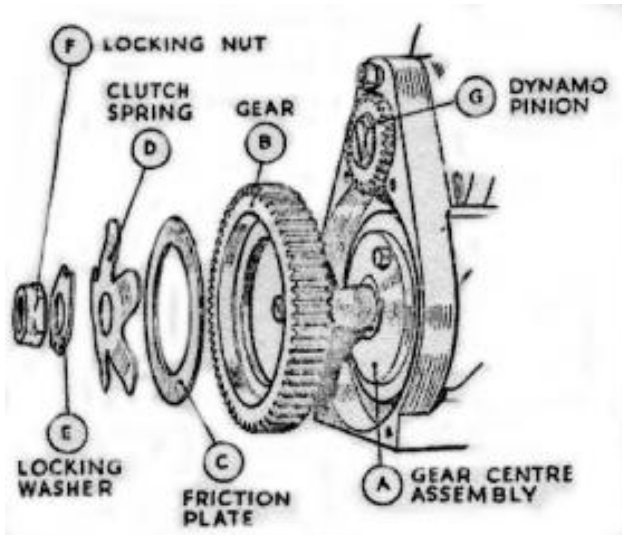
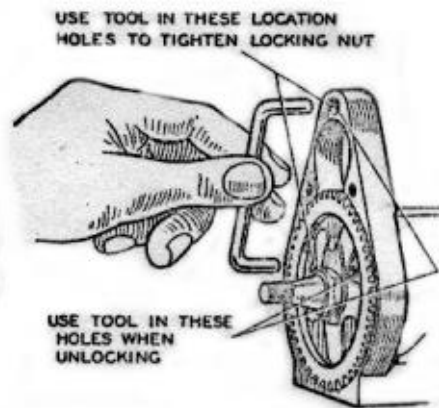
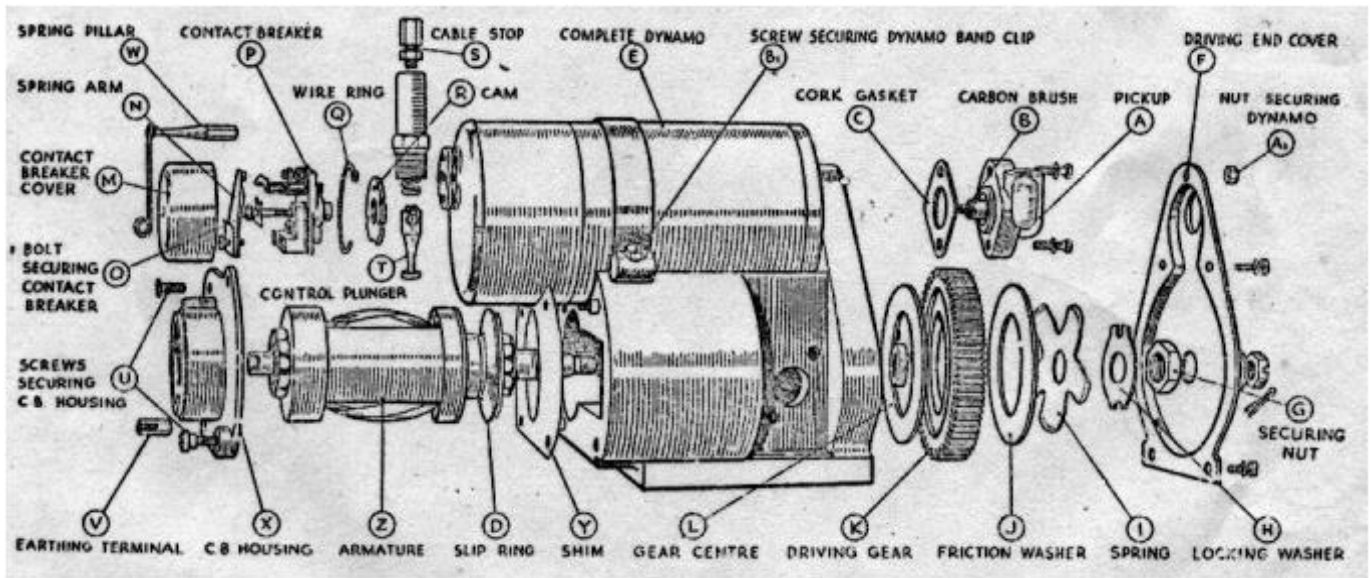

Fig. 49. Exploded view of components of the Slipping clutch.
Fig. 50. Slipping clutch showing the jig to lock the large gear.
Fig. 51. Exploded view of magneto portion of dynamo.
Examine the pick-up or high tension terminal (A, Fig. 51). See that the carbon brush (B) moves freely in its holder, being careful not to stretch the brush spring unduly. While the pick-up is removed, clean the slip ring track and flanges (D) by holding a soft cloth on the ring while the engine is slowly turned by means of the kickstart. When replacing the pick-up, do not forget to fit the cork gasket (C).
### A (9) Magneto Slipping Clutch (see Fig. 49).
Remove the dynamo (E, Fig. 51) and take off the driving end cover (F) by unscrewing the four countersunk head screws. To dismantle the slipping clutch it will be necessary to use a jig (Fig. 50) to hold the larger gear whilst the securing nut is being undone. This consists simply of a length of  $\frac{1}{4}$ " diameter mild steel rod bent to a flat U, the ends being cut short with their centres  $3\frac{3}{16}$ " apart, so that one can be slipped in the hole in the wheel while the other is engaged with the hole in the top of the casting through which the dynamo securing stud usually goes. The  $\frac{7}{16}$ " box spanner can then be used on the securing nut (G, Fig. 51) which unscrews in the normal left-hand direction. Note that the tab of the locking washer (H) must be bent back first. Remove the locking washer (H), clutch spring (I), friction washer (J), driving gear (K) and gear centre (L).
the screws (U, Fig. 51), earthing terminal (V), and pillar (W) from the contact breaker end plate (X) and remove the plate from the magdyno, together with shims (Y). The armature (Z) can then be drawn out of the machine. There is no need to put a keeper
If test apparatus is not available, a rough check of the armature windings can be made by means of a two volt battery (a tapping across one cell of the motor cycle battery), and an ammeter. Screw the contact breaker retaining screw (O, Fig. 51) into the end of the armature shaft. Connect one terminal of the battery, with the ammeter in series, to the screw. Connect the other battery terminal to the metal body of the armature. The ammeter will then record the current taken by the primary winding – this should be approximately four amperes. To check the secondary winding of the armature, wrap the bared end of a length of H.T. cable round the brass insert of the slip ring and hold the other about one-eighth from the armature core. If the lead from the battery which was connected to the core is then flashed quickly on and off the core, a spark should occur between the H.T. cable and the core.
Key the gear centre (A, Fig. 49) on to the spindle, replace the driving gear (B), friction washer (C), clutch spring (D), locking washer (E) and secure by tightening the fixing nut (F). The U shaped jig (Fig. 50) must be used to prevent rotation of the shaft while tightening the nut. After assembling, the setting of the clutch must be checked. This can easily be done by locking the driving gear and applying a
After setting, by slackening or tightening the securing nut (F, Fig 49) prevent further movement by bending up the tab of the lock washer (E). Refit the dynamo and pack the gears with high melting point grease. Secure the drive end cover in position with the gasket
Take off the connections from the dynamo terminals, unscrew the hexagon headed nut (A1, Fig 51) from the driving end cover of the magdyno, slacken the two screws (B1, Fig 51) securing the band clip and draw the dynamo out of its mounting.